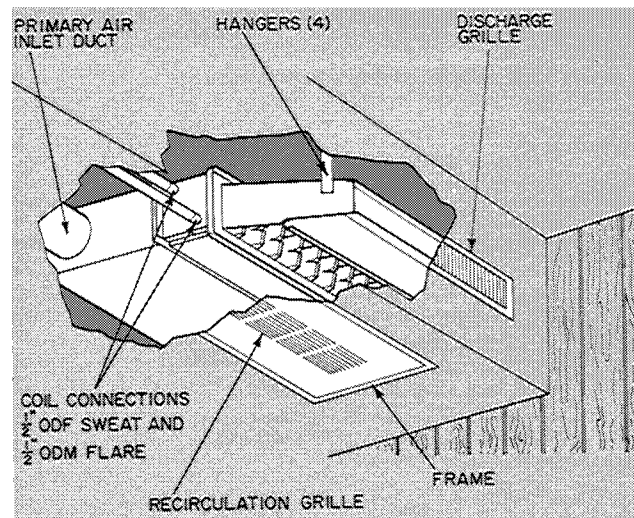

Fig. 4 – Typical Installation of 36CT Unit
3. Prepare opening in ceiling in accordance with dimensions indicated in Fig. 2 and proper installation practice for a furred-in space. (See also Fig. 4.)